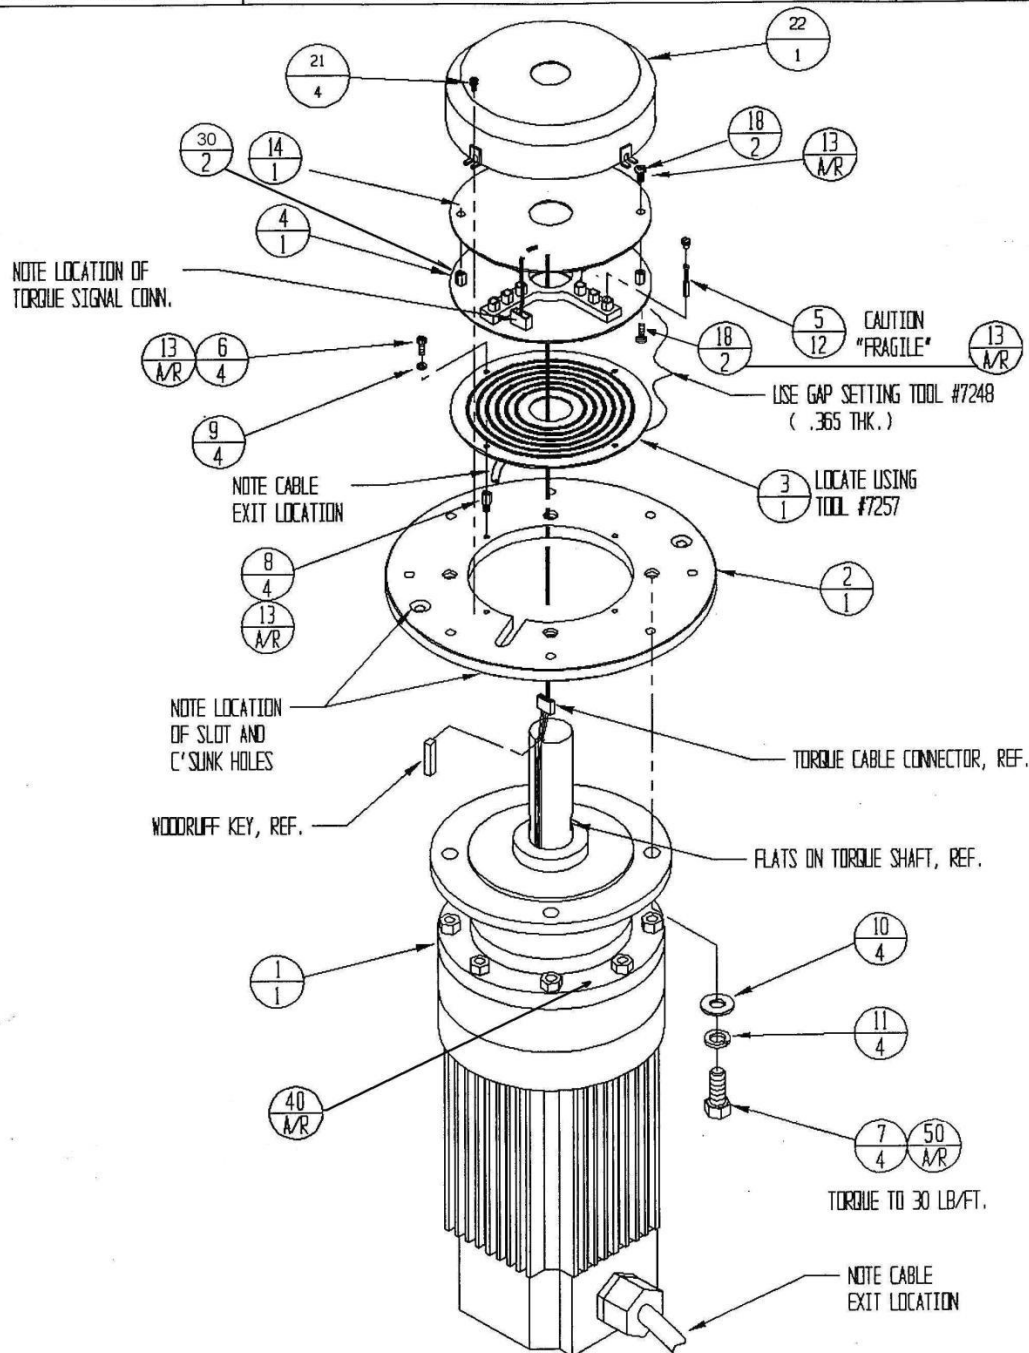

Figure 10 Dynamometer Exploded View
- 2.11. Remove the metal EMI Can (Figure 10 – Item 22) from the dynamometer.
- 2.12. Remove the Torque Board Shield (Figure 10 – Item 14).